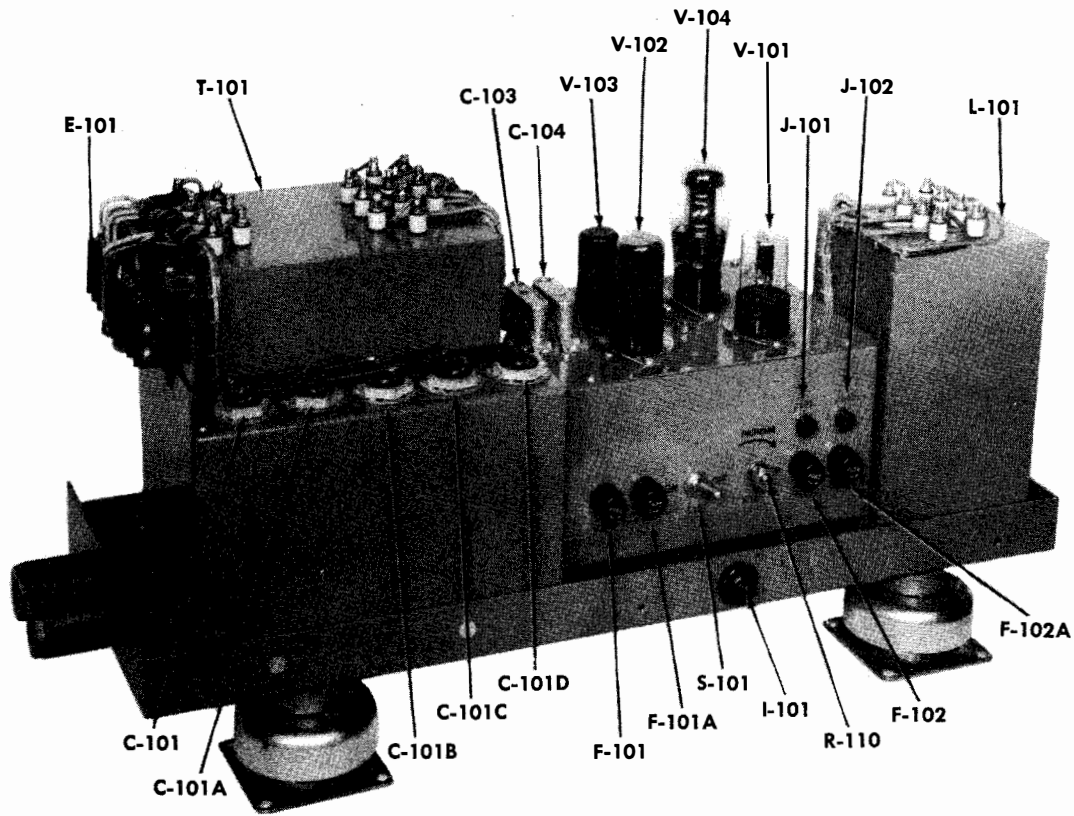

Figure 1-3 Power Supply PP-765/U Front View, Cover Off.
(1) FRONT VIEW. (See figure 1-3)